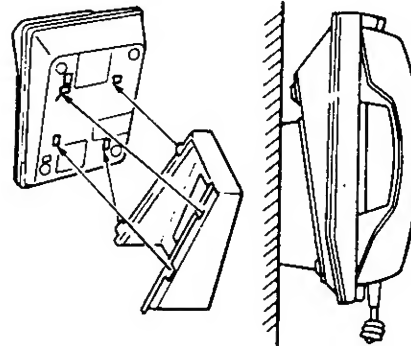

Figure 200-60 Mounting the Key Telephone to the WMU-Z
5. Mount the telephone onto the wall mounting unit by aligning the notches on the bottom of the Key Telephone with the rails on the wall mounting unit, as shown in Figure 200-60.